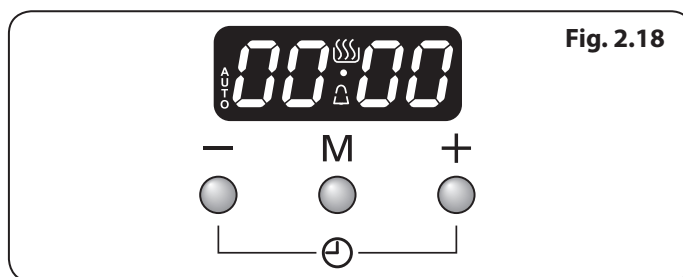

Fig. 2.18
1. The LCD clock is shown in **(Fig. 2.18)**. Once the cooker is connected and switched on, the display flashes (0:00) and the time starts from (0:00).